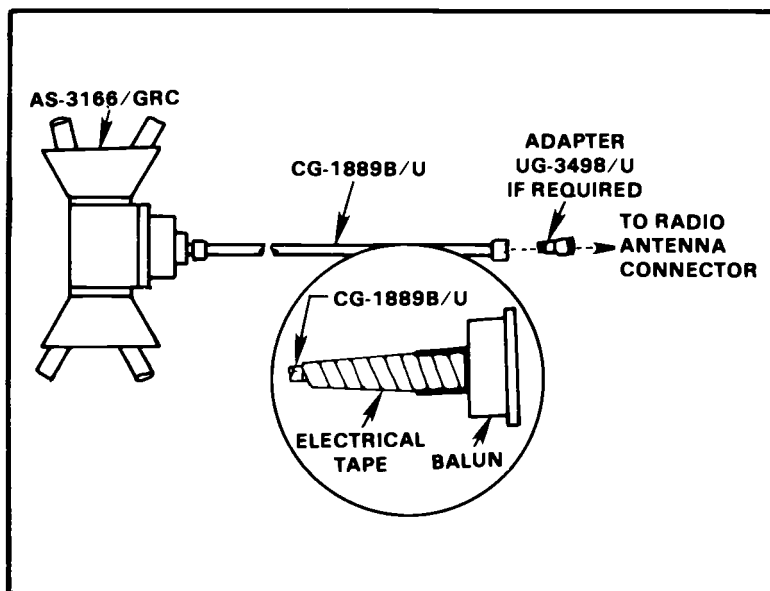

Figure 3-12. Connections of CG-1889B/U to AS-3166/GRC and radio.
- b. Connect the RF Cable CG-1889B/U to the feed cone assembly connector (Figure 3-12).
- e. Tape the RF cable connection (Figure 3-12) and tape the cable to the insulating extension just below the feed cone assembly. Tape the cable to the mast every 5 feet all the way to the bottom of the mast.
**NOTE:** For AN/VRC-12 family FM radios with BNC type antenna connectors, use the UG-349B/U adapter on the end of the CG-1886B/U RF cable (Figure 3-12).